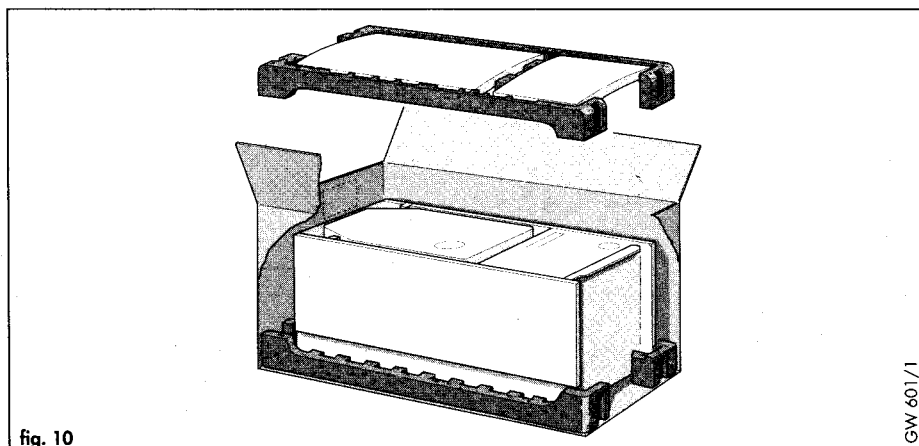

fig. 10
4.2.2 Unpack the boiler (fig. 10)